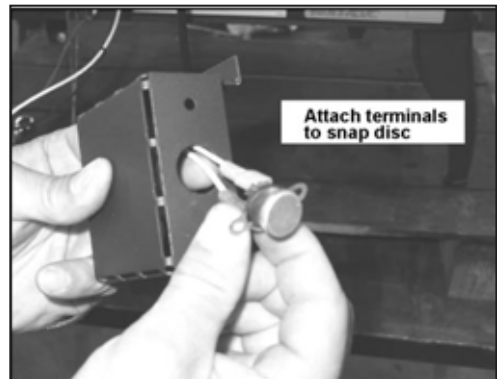

Figure 5
5. Route the white wires through the snap disc bracket and attach the wire terminals to the snap disc. Pull flush in the bracket. **Figure 5.**
6. Attach the snap disc bracket to the underside of the appliance with two screws. Push the bracket up in the slots until the snap disc contacts the bottom of the firebox. **Figure 5.**